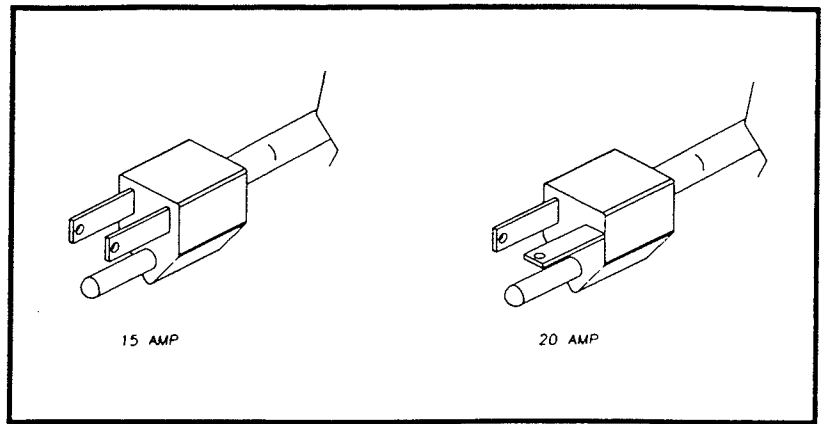

Figure 6
E. Connect the power cord. The plug is designed for 115 volt/15 amp duty, or 115 volt/20 amp duty (Fig. 6). The unit must be connected to a properly grounded receptacle. The electrical cord furnished as part of the freezer has a three prong grounding type plug. The use of an extension cord is not recommended. If one must be used, use one with a wire sized 12 gauge or heavier with a ground. **Do not** use an adaptor to get around grounding requirements.